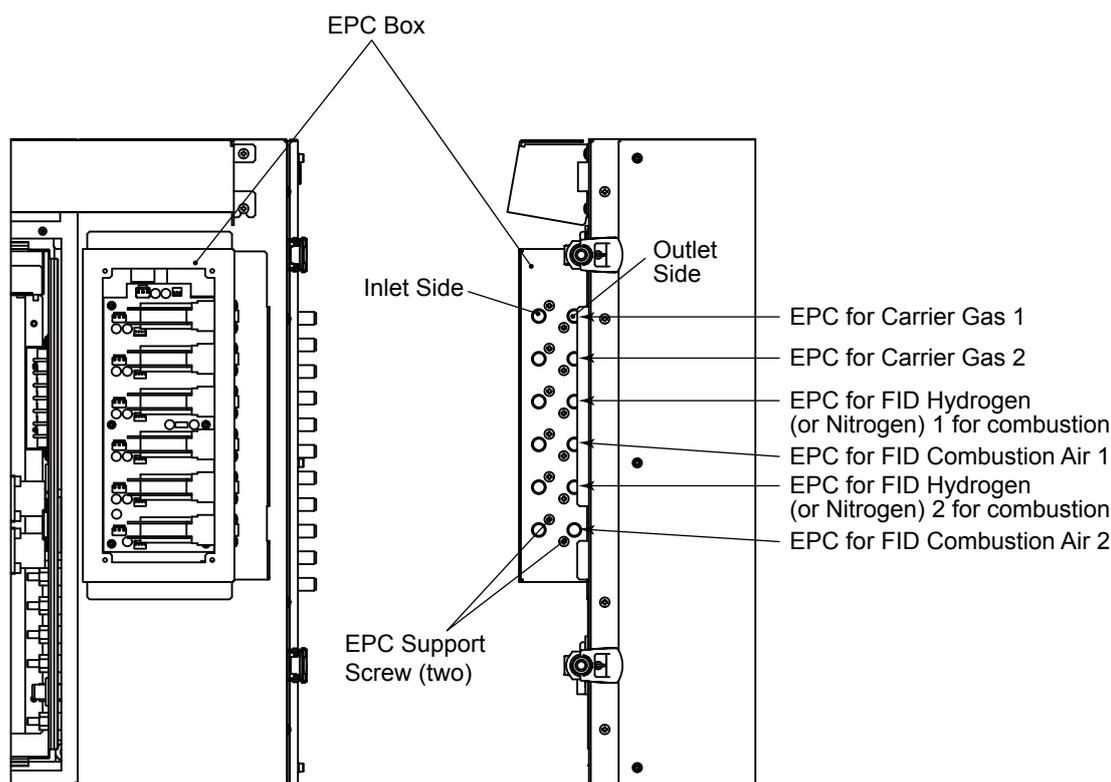

Figure 6.18
- (1) Stop the operation. (See “3.3.4 Stopping operation” for this procedure).
- (2) Stop the supply of power.
- (3) Turn off the supplies of the carrier gas, utility gases (FID hydrogen gas (or nitrogen) for combustion, FID combustion air) and supply of samples.
- (4) Open the door for the isothermal oven of the oven unit.
- (5) Loosen the four screws on the EPC container cover (front right side of the isothermal oven) using a hexagon wrench and remove the cover.
- (6) Remove the couplings to the inlet (IN) and outlet (OUT) of the EPC (see Figure 6.18). Label the couplings for ease of identification later.
- (7) Disconnect the connector of the cable for EPC from the EPC card.
- (8) Remove the two screws which fix the EPC.
- (9) Install a new EPC in the reverse order of steps (6) to (8).
- (10) Reinstall the EPC box cover. Firmly tighten all of the four screws on the EPC box cover to maintain the explosionproof condition.
- (11) Close the door to the isothermal oven.
- (12) Turn on the power.
- (13) Start supplying FID hydrogen (or nitrogen) for combustion, FID combustion air, and carrier gas. Perform a leak test around the couplings.
- (3) Turn off the supplies of the FID hydrogen (or nitrogen) gas for combustion, FID combustion air, and carrier gas.
- (4) Open the door of the isothermal oven section in the oven unit as well as the door above it.
- (5) Remove the front panel of the regulator by loosening the two screws.
- (6) Remove the couplings connected to the inlet (IN) and outlet (OUT) of the regulator. See Figure 6.18. Label the couplings with “IN” and “OUT” for ease of identification later.